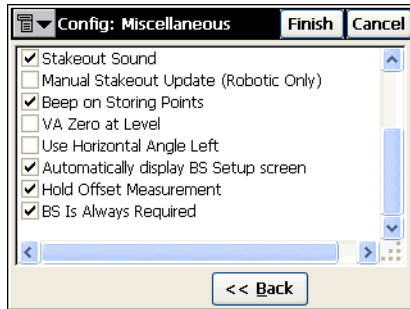

Figure 3-57. Config: Miscellaneous
13. Select additional customizing parameters in the *Miscellaneous* screen (Figure 3-57).